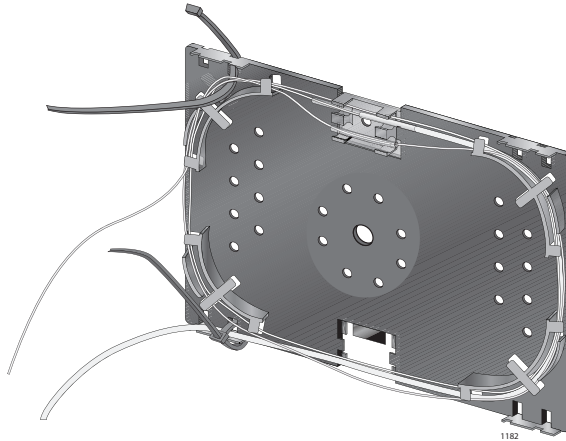

Figure 27. Setting the Fiber Cable in the Splice Tray
4. Route the fiber cable 2-1/2 times around the splice tray to the splice organizer and cut it to a length that will allow the splice to be placed in the organizer, as shown in Figure 27.